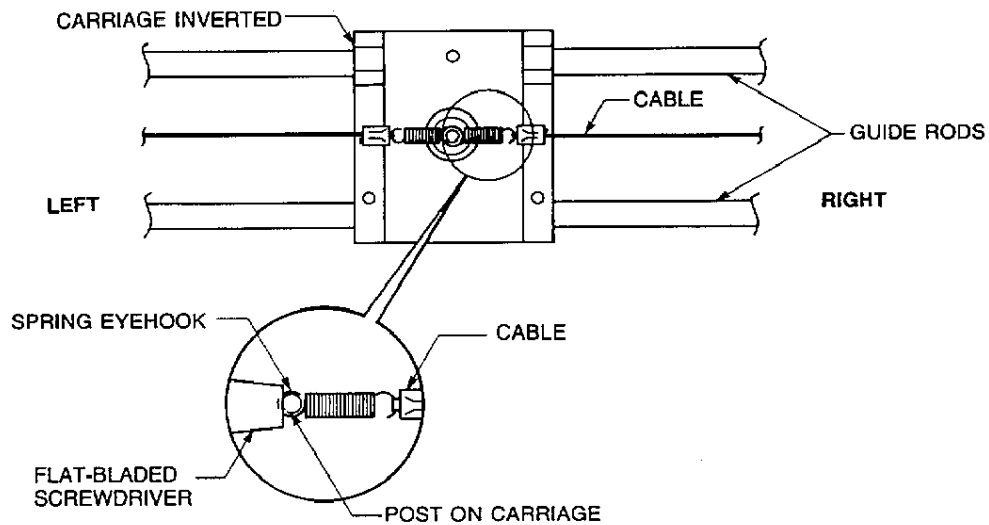

Figure 10. Connection to Post
Step 6. Connect cable to carriage. Invert carriage and lay it on the guide rods. Using a flatbladed screwdriver (or a strong fingernail), connect the cable's eyehooks to the carriage post as shown in Figure 10.